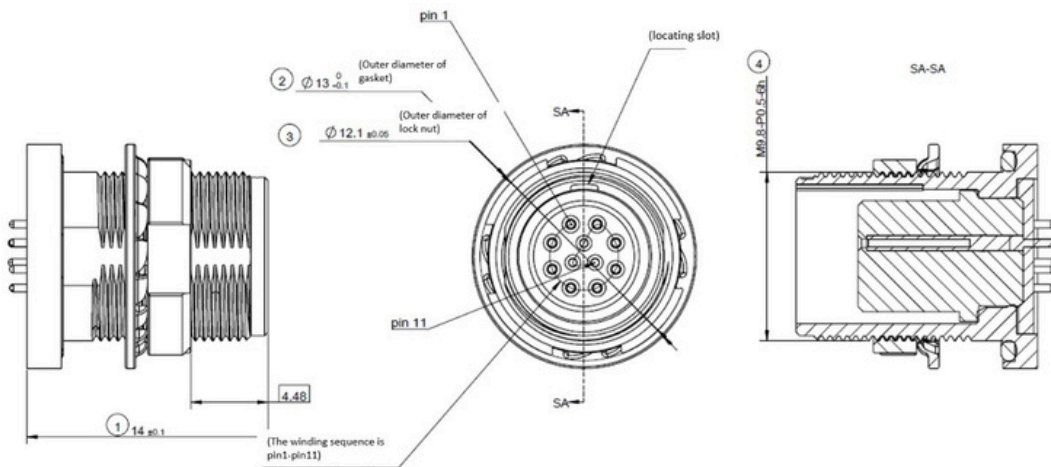

Figure 6 Aviation Plug Interface Pin Numbers
- 1) The GPS_REC interface specification on the Airy Lite power box is SM2.54 male connector. The pin definitions are shown in Figure 6;
The cable aviation plug on the Airy Lite LiDAR side is shown in Figure 6.